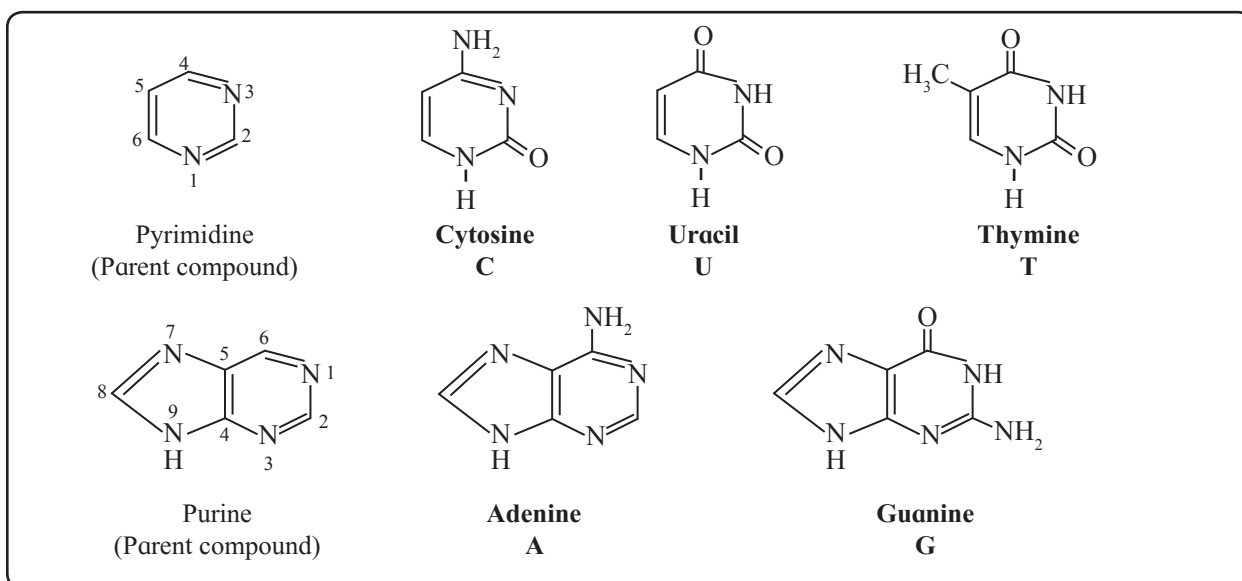

Fig 14.25 : Bases in nucleic acids
bases with two rings (**adenine** and **guanine**) are derived from the parent compound **purine**. Each base is designated by a one-letter symbol (Fig. 14.25). Uracil (U) occurs only in RNA while thymine (T) occurs only in DNA.